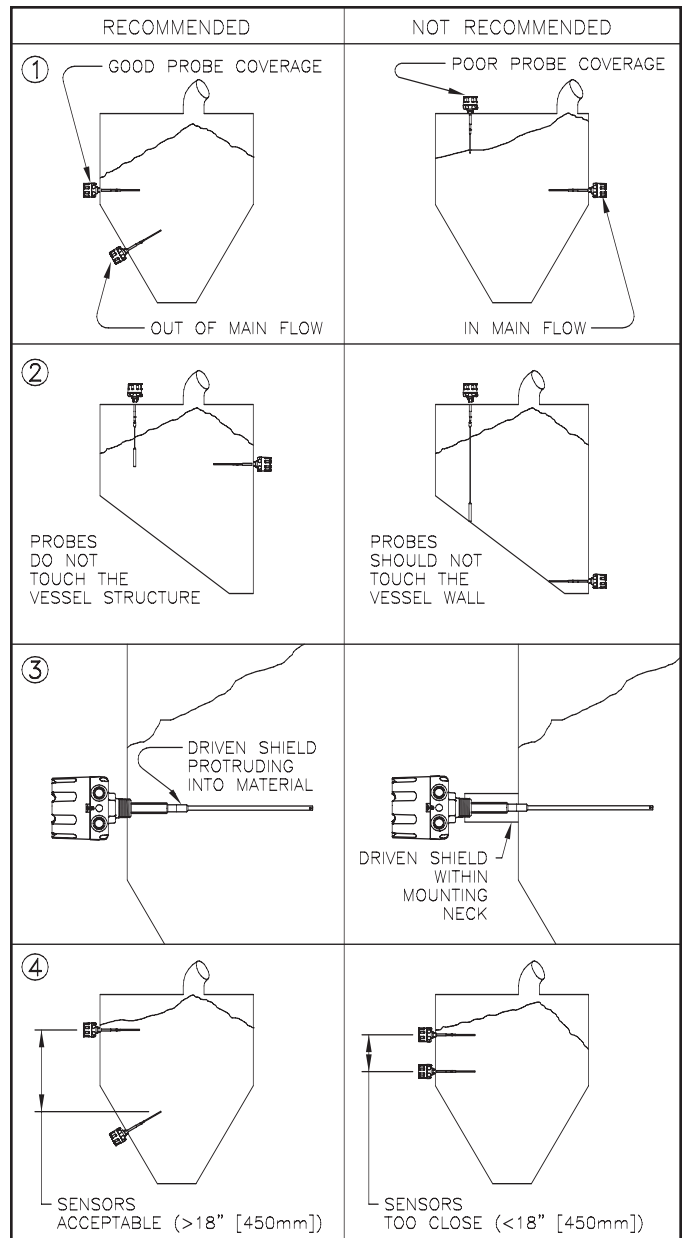

Figure 2
**Choosing a Location:** (See Figure 2)